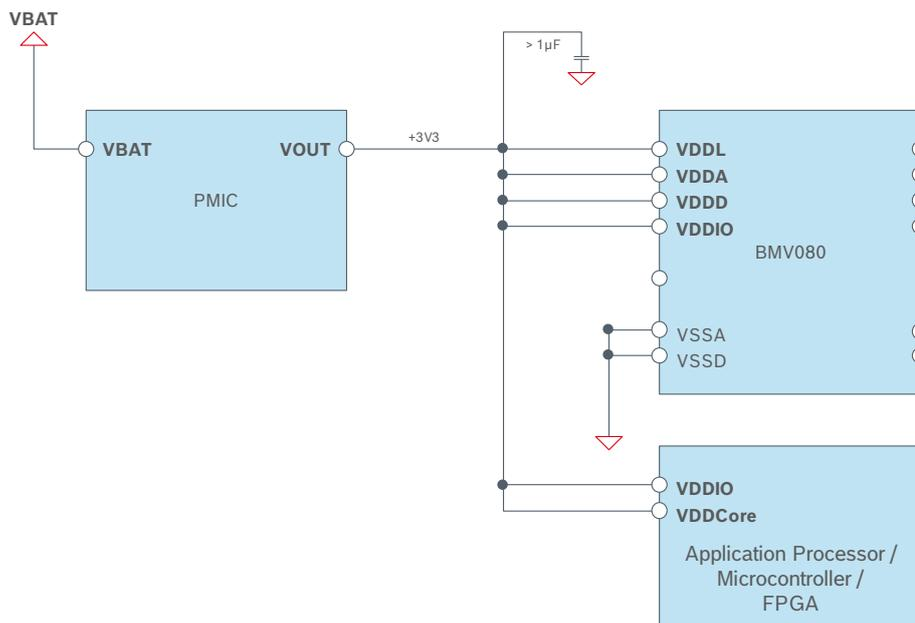

Figure 26: Power-supply configuration with a single supply rail
- Figure 26 illustrates the simplest connection possible where all four power domains of the BMV080, i.e., VDDL, VDDA, VDDD, and VDDIO, are powered by the same rail (3.3V)